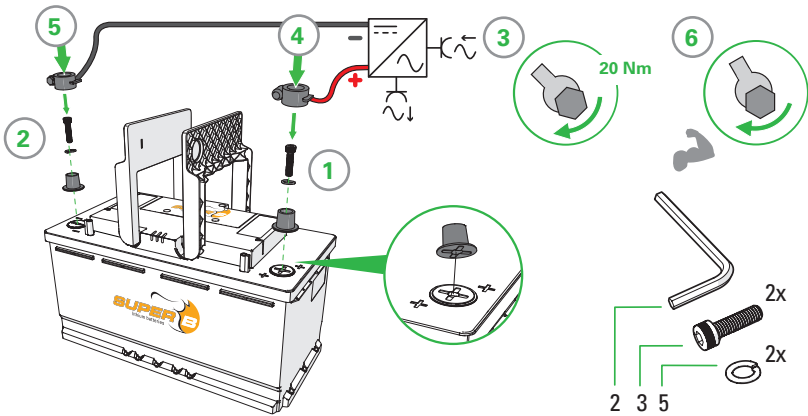

Figure 5. Connecting power cables with automotive type terminals
1. Connect the load or charger to the X2 (+) terminal of the Li-ion battery. (Figure 5)
2. Connect the load or charger to the X1 (-) terminal of the Li-ion battery. (Figure 5)